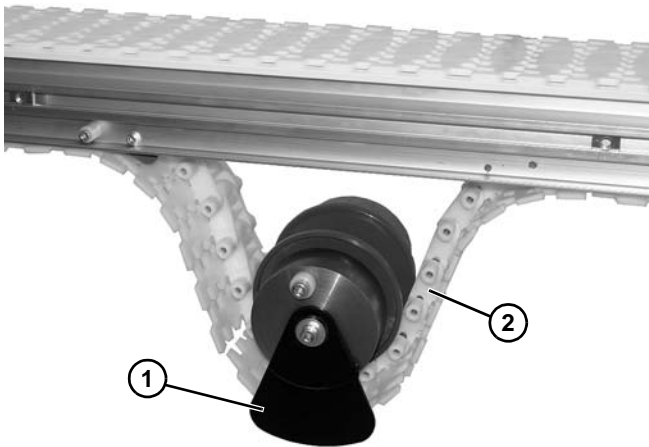

Figure 62
1. Install idler pulley assembly (**Figure 62, item 1**) onto belt (**Figure 62, item 2**).